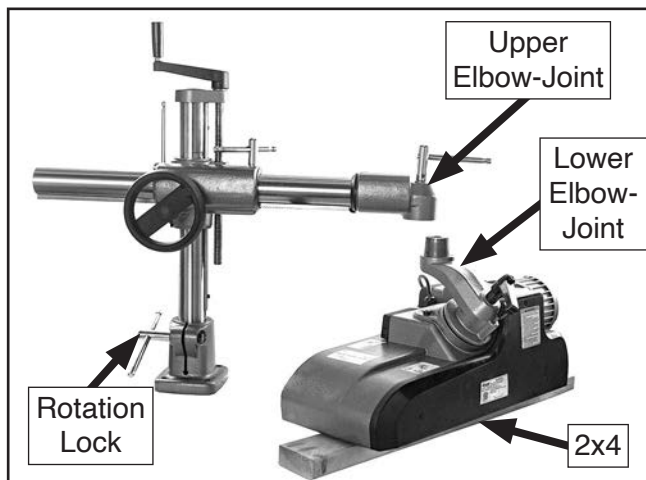

Figure 13. Aligning upper and lower elbow-joints.
7. Loosen vertical and horizontal travel locks and rotation lock, then use horizontal handwheel and vertical travel handle to position upper elbow-joint directly over hub of lower elbow-joint (see **Figure 13**).